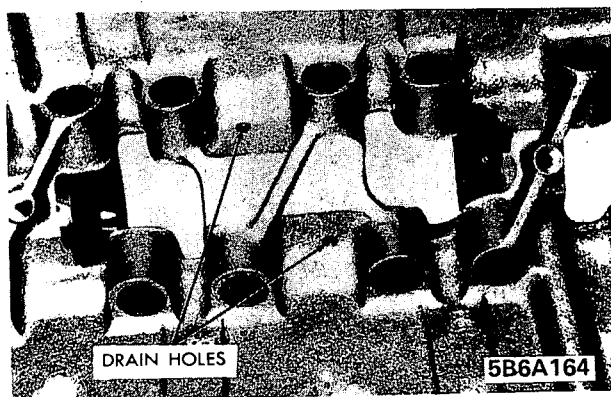

Figure 6A-164 - Drain Holes in Lifter Gallery
1. With cylinder block inverted, use pen light to see that passage from oil pump to filter is open (Figure 6A-167).
2. Check passage from filter outlet to rear main bearing by inserting wire in oil filter outlet passage and using pen light to see that wire is visible in passage to rear main bearing (Figure 6A-166).
3. Visually check passage from each main bearing to corresponding camshaft bearing (Figure 6A-157).
5. With cylinder block right side up, check oil passages to left bank lifter bosses. Use rubber hose to blow smoke in oil filter outlet while observing for smoke passing out oil passages from left main oil gallery to lifter bosses (Figure 6A-165).
6. Check oil passages to right bank lifter bosses. Use rubber hose to blow smoke in passage from front main bearing to right main oil gallery while observing for smoke passing out passages from right gallery to lifter bosses (Figure 6A-166).
7. Use wire to check two drain holes in lifter gallery (Figure 6A-164).